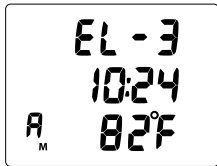

Fig. 97 - FREE SURF ALT 2
**FREE SURF ALT 2**, information includes (Fig. 97) -